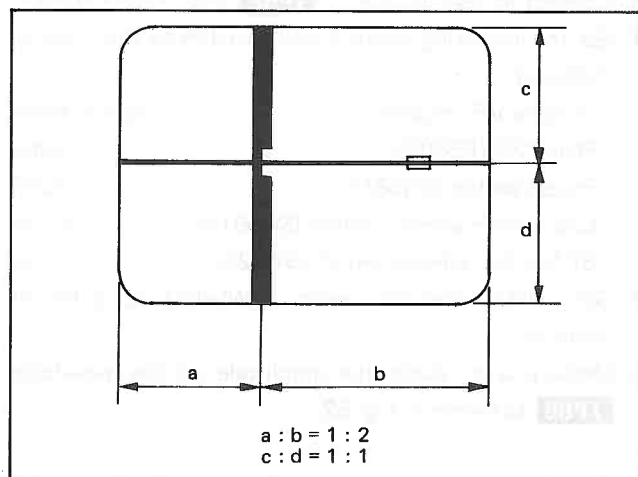

Fig. 50
- Adjust R5429 (H-Delay Position), R5440 (V-Delay Position) so that the displayed on the screen becomes as shown in Fig. 50.